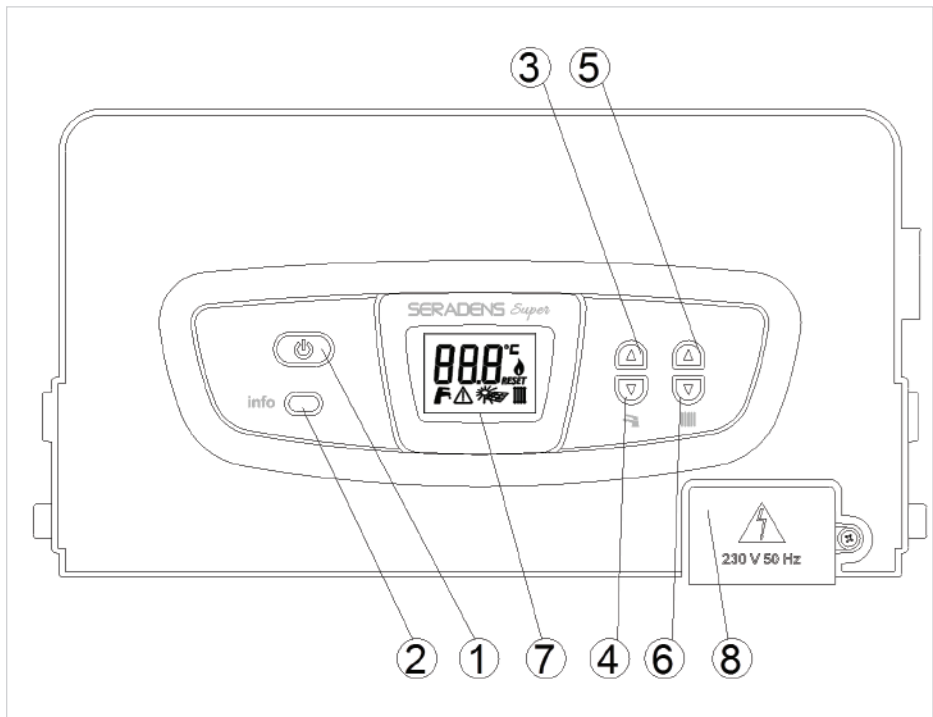

Figure 1. Control panel
You can activate the user info menu simply pressing the Info key (2) (Figure 1) for a time period of 2 seconds. You can see many information and values alternately in the user info menu. To display sequentially all the other variables supported, press the DHW temperature increase (3) and decrease (4) keys.
Press key **(1)** (Figure 1) to operate your boiler in “SUMMER” mode and see only the tap symbol () continuously shown on the display. At this mode combi boiler only operates for the domestic hot water (DHW) system. The automatic ignition system lights the burner every time if there is a demand for DHW. The existence of the flame is shown with a flame symbol () on the display. During DHW usage, the tap symbol () on the display blinks.
In order to operate the combi boiler in “WINTER” mode, press key **(1)** (Figure 1) and see tap symbol () and radiator symbol () continuously shown on the display. At this mode combi boiler operates for the domestic hot (DHW) and heating (CH) systems. The automatic ignition system lights the burner every time there is a demand for both. The existence of the flame is shown with flame symbol () on the display. In this case, the tap symbol () on the display blinks when system operates for DHW and radiator symbol () blinks when system operates for CH.
In order to operate the combi boiler in “ONLY HEATING” mode, press key **(1)** (Figure 1) and see only radiator symbol () continuously shown on the display. At this mode combi boiler only operates for heating (CH) system. The automatic ignition system lights the burner every time there is a demand for CH system. The existence of the flame is shown with flame symbol () on the display. In this case, radiator symbol () blinks when system operates for CH.
- When electricity is supplied to the appliance, “OFF” word can be seen on the display. Pushing mode button (Figure 1) leads to change the operating mode, every push changes mode sequentially between SUMMER-WINTER-ONLY HEATING-OFF.
- Check that there are no flashing numbers on the display **(7)** (Figure 1) (also see Section 2.9). If code E04 appears on the display **(7)** this denotes that there is no water in the boiler. Consequently, fill the system as described in Section 2.7.
The heating temperature is regulated by using keys **(5)** and **(6)** (Figure 1).
DHW temperature is regulated by using keys **(3)** and **(4)** (Figure 1).
This paragraph contains a list of error codes that the boiler may generate on the display **(7)** (See Figure 1) together with the relative indications and the operations that the user can carry out to reset the boiler.
- Turn off and then turn on the appliance using button **(1)** (Figure 1) on the control panel. Let the system ignite by itself, if **E01** error remains, retry to turn off and turn on the appliance once again. This action is taken in order to be sure if the gas in the pipes reached to the appliance.